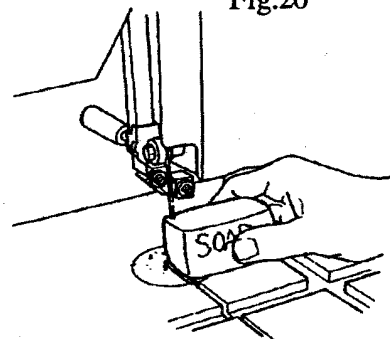

Fig.21
- Lubricate the bandsaw blade by shaving off a slice of a bar of soap, as shown in Fig.21. The soap will collect in the gullets between the teeth and prevent material from clogging the blade. Do not use oil or other lubricants. Only bar soap. This type of lubrication is especially needed for aluminum.